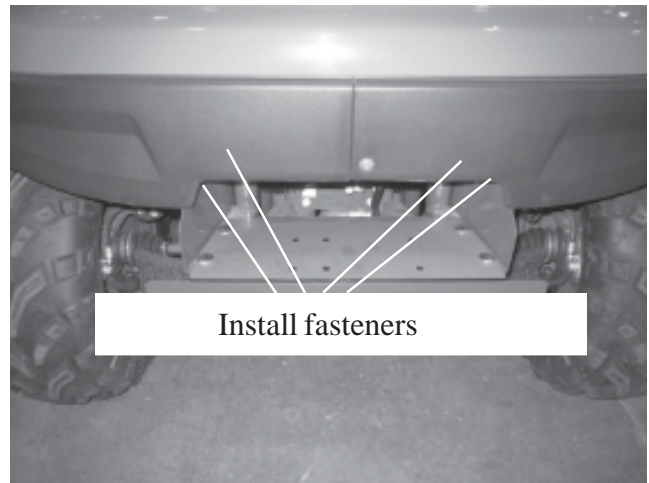

Figure 2
2. Fasten the winch mounting plate to the vehicle frame, Figure 2 using the 10mm carriage bolts and nut.